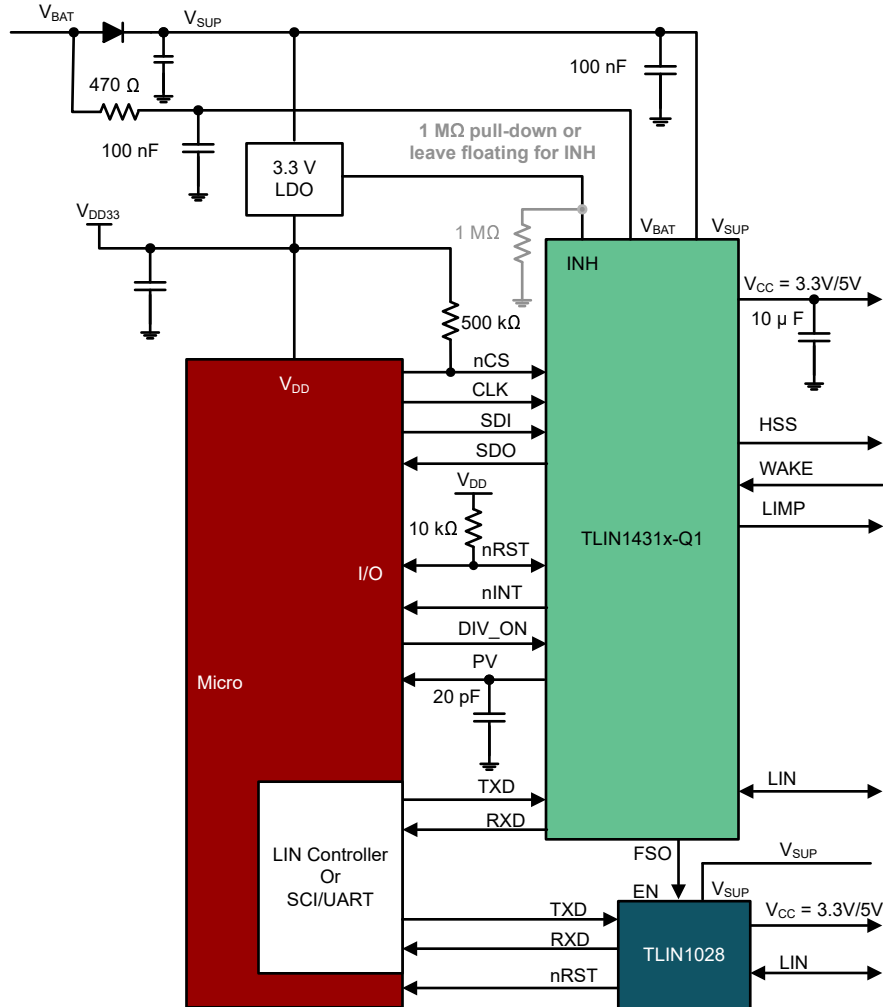

图 8-21. Channel Expansion: LIN SBC
- Two LIN transceivers with two LDO outputs by using an eight pin LIN SBC (see Figure 8-21)